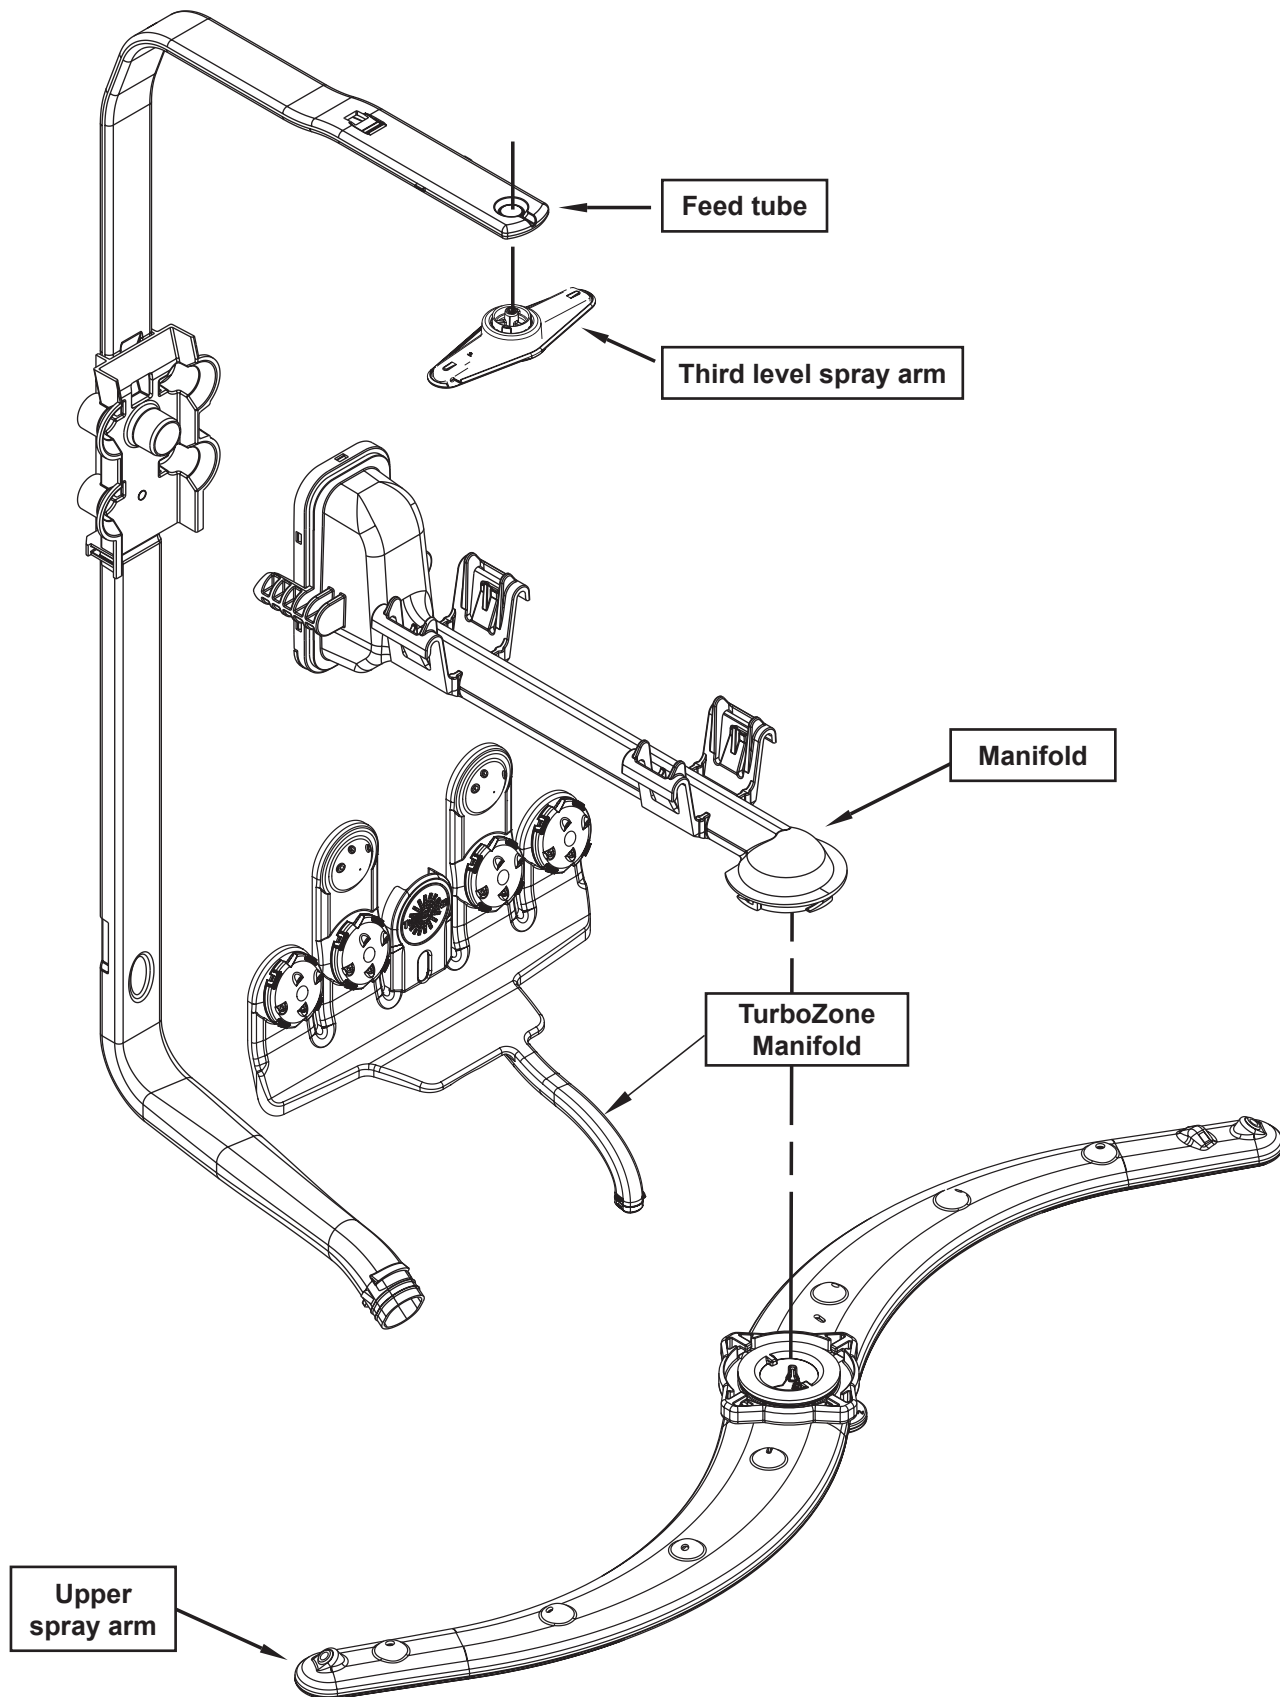

*Figure 1*
3. Remove - 6 - ¼" hex head screws securing the dispenser to the door, see figure 1.